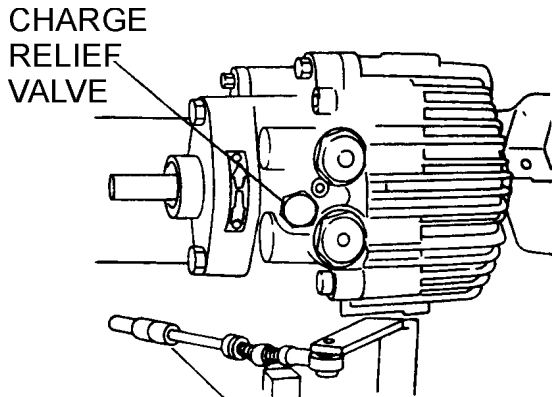

Figure 33. Loosening Charge Relief Valve
2. Loosen the charge relief valve located on the front side of the hydraulic transmission (Figure 33).